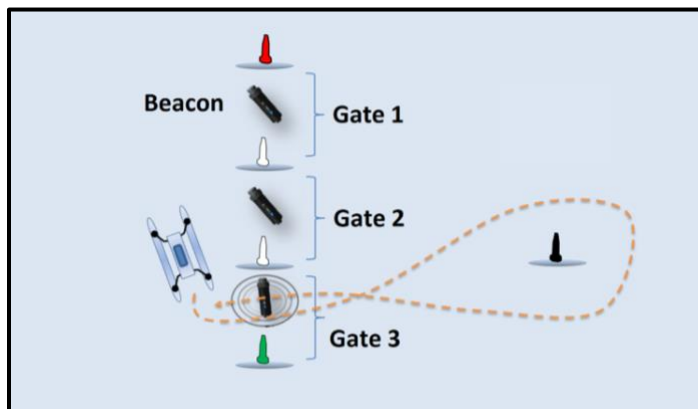

Figure 4: Example Entrance and Exit Gate Task
This task requires the AMS to enter and exit the course through the gates. The three gates are marked by four colored buoys (see Figure 4); in between each set of buoys is an underwater beacon. The AMS should detect the beacon and enter the course through those gates before proceeding to other tasks.
- Gate 3 is bounded by a white buoy and a green buoy (see Figure 4).